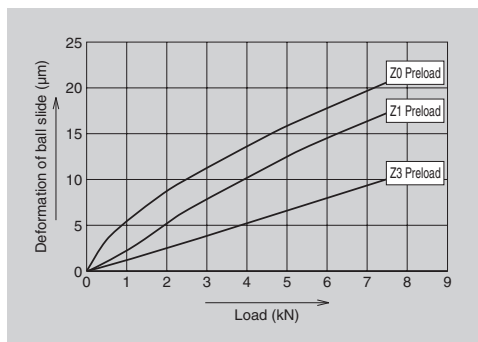

Fig. 3.3 Rigidity of SH35, downward direction load (example)
- Fig. 3.3 shows the relationship of ball slide deformation by external vertical load and preload. SH35 is used as a case.